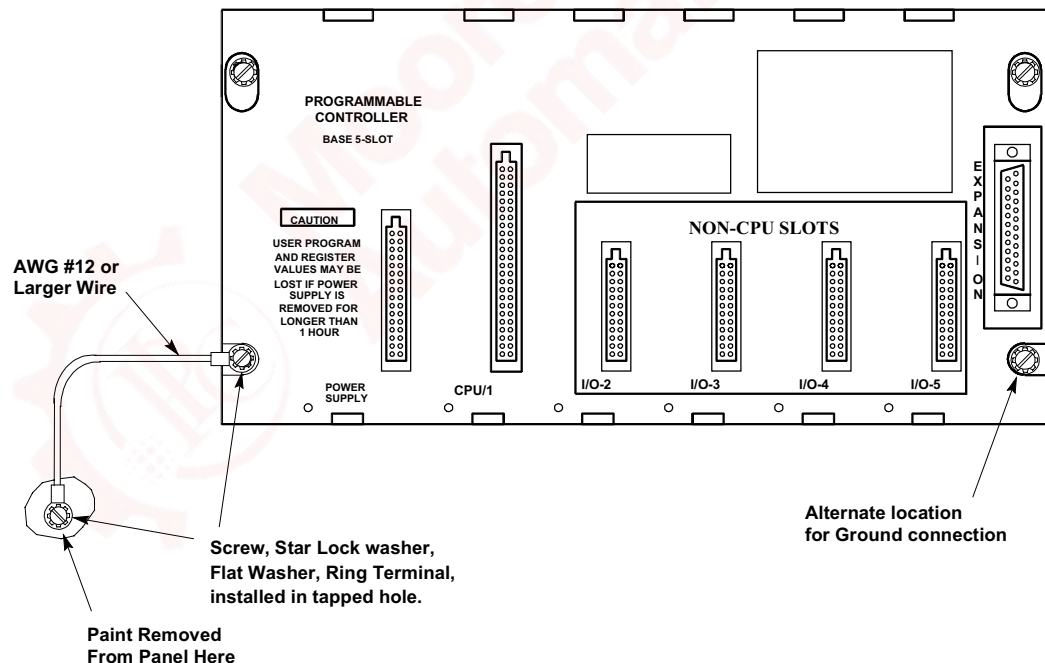

Figure 2-11. Baseplate Grounding
Nineteen-Inch Rack-mounted PLC baseplates should be grounded according to the guidelines in the "Baseplate Safety Grounding" section, using a separate ground wire from the PLC baseplate as shown in the previous figure (Fig. 2-11).
- If using the **Recessed Mount Adapter Bracket (IC693ACC313)**, the ground wire can be installed as shown in Figure 2-11 with the ground attached to the Recessed Mount Adapter Bracket. An additional ground wire connecting the Adapter Bracket to a solid chassis ground on the 19" Rack should be installed. Use the same or equivalent hardware and paint removal scheme as shown in Figure 2-11.
- If using the **Surface Mount Adapter Bracket (IC693ACC308)**, the ground wire should be run from the baseplate as shown in Figure 2-11, to a solid chassis ground on the 19" Rack. Use the same or equivalent hardware and paint removal scheme as shown in Figure 2-11.